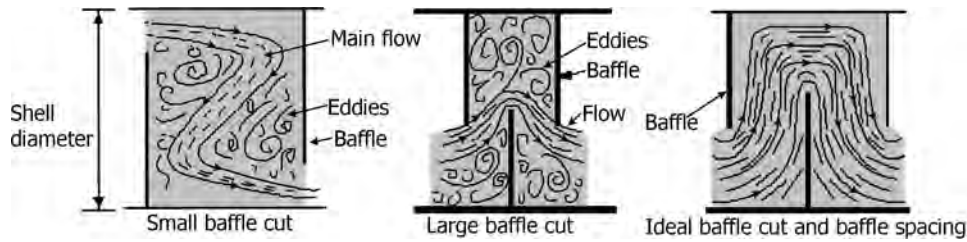

FIGURE 10.25 Effect of small and large baffle cuts.
- Both very small and very large baffle cuts are detrimental to efficient heat transfer on the shell side due to large deviation from an ideal situation, as illustrated in Figure 10.25.